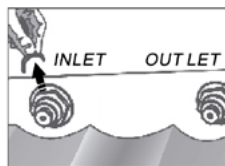

FIGURE 4
3. At the right side of the unit pull out the blue plastic C-clamp locking on plastic ferrule (Fig. 4)